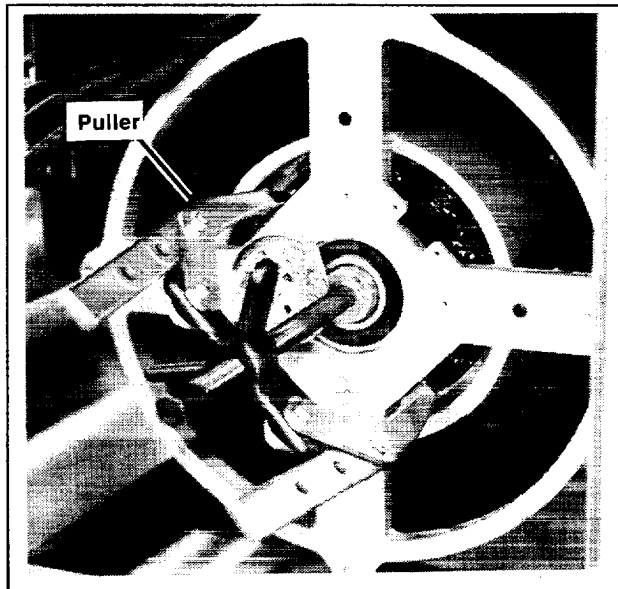

Figure 3. Removing End Bracket
8. Use a pulling tool to remove end bracket. See Figure 3.